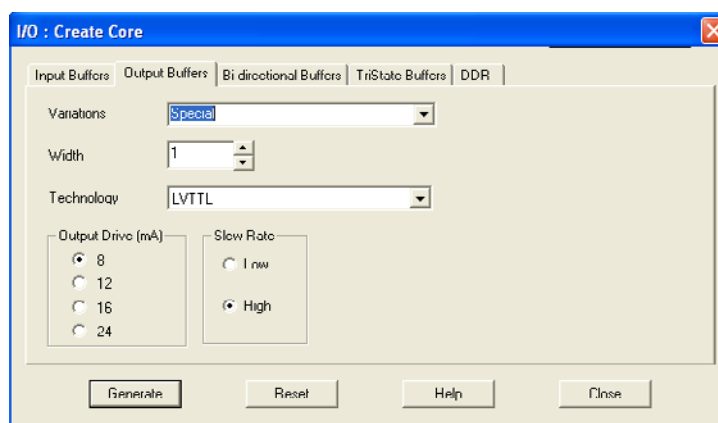

Figure 7 • Output Buffer Selection
1. Select the **Output Buffers** tab (Figure 7).